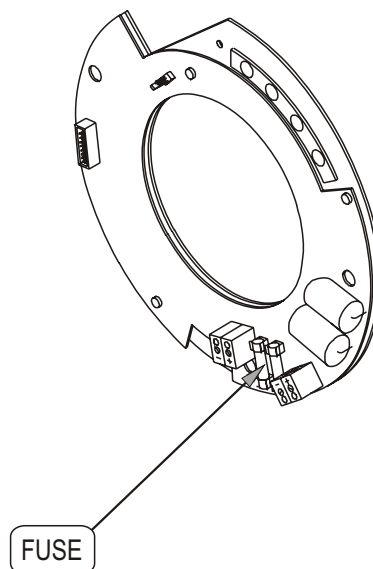
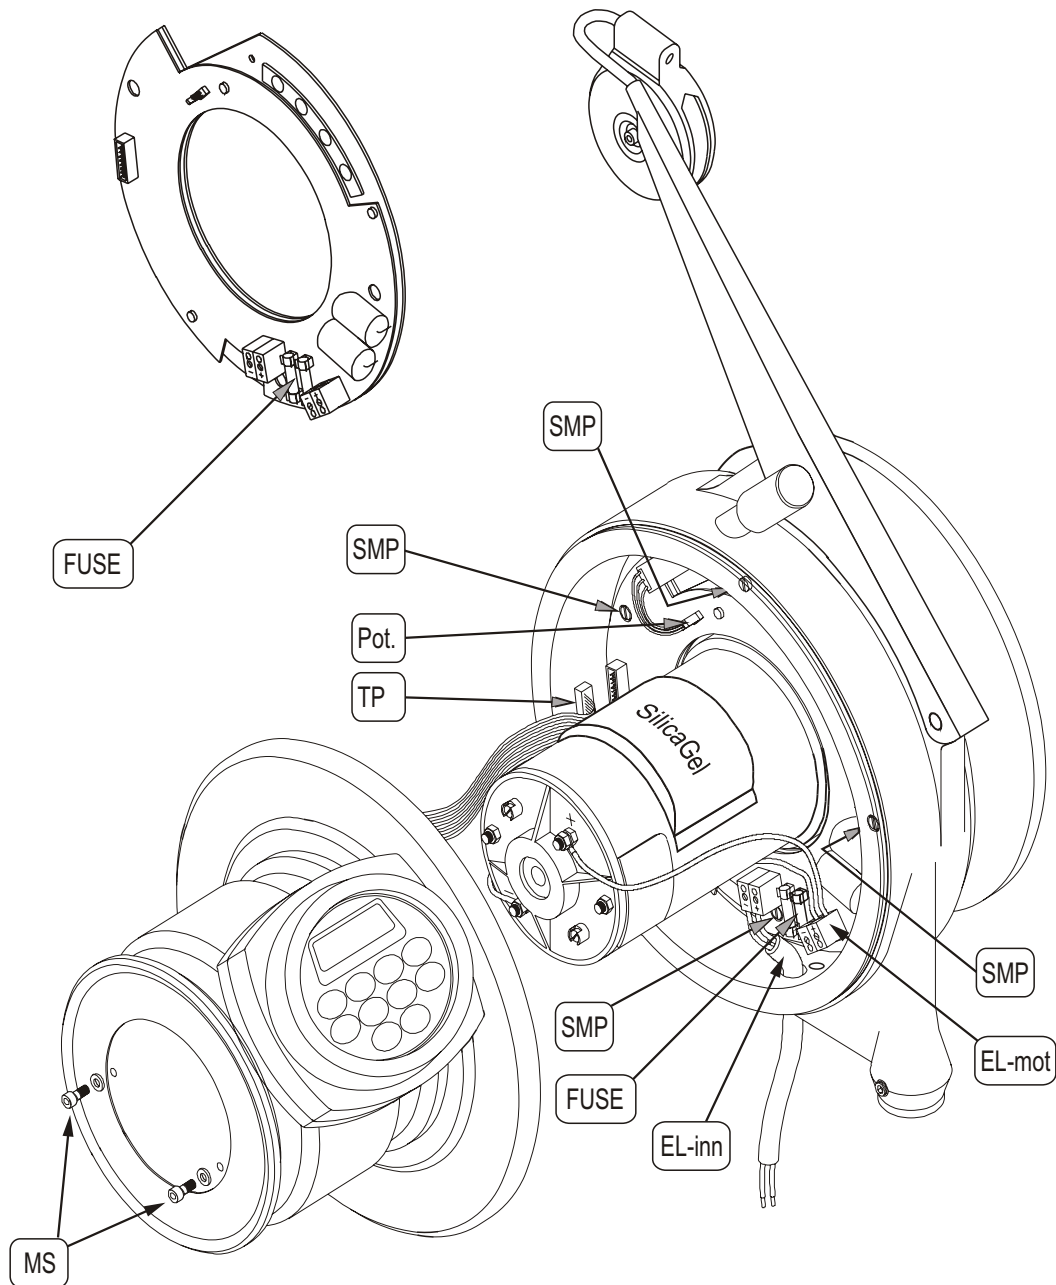

Fig. 7
Fig. 9
The machine is equipped with an electric fuse. The fuse is placed on the motor print board (see fig. 7 below) inside the housing. Replace the fuse by removing the housing: unscrew the screws at the end of the housing (see fig 9 on page 24) and then remove the fuse placed in the fuse socket on the print board.
**Motor print board - (see fig. 9 on page 23)**